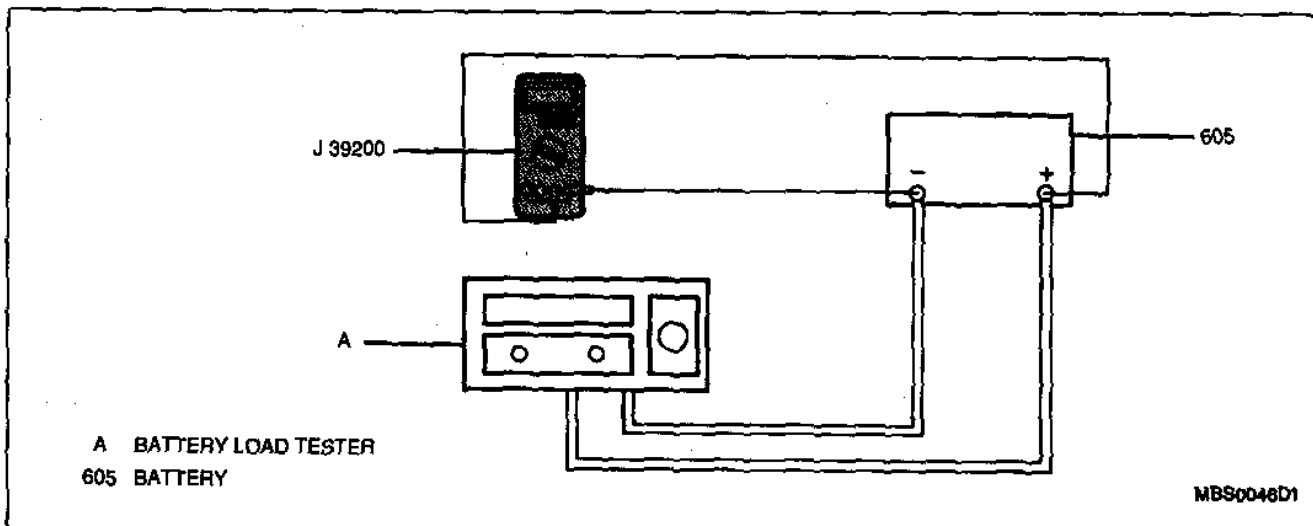

Figure 4—Battery Load Test
- A. Connect a J 39200 and a battery load tester across the battery terminals (Figure 4).